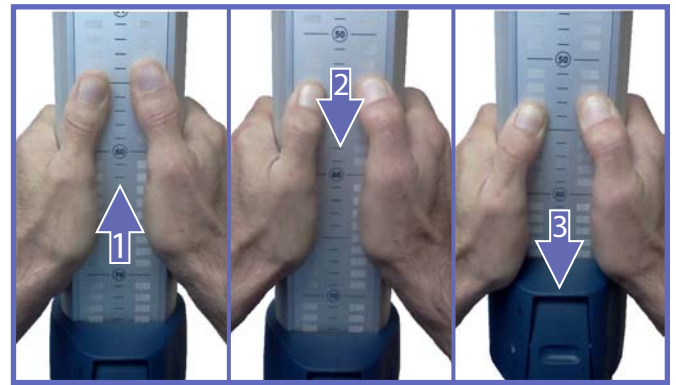

Fig.23
- 6) Referring to “Fig.23”, grab the upper portion of the post with both hands (1) and raise it about 5 mm to remove the pressure on the collar.